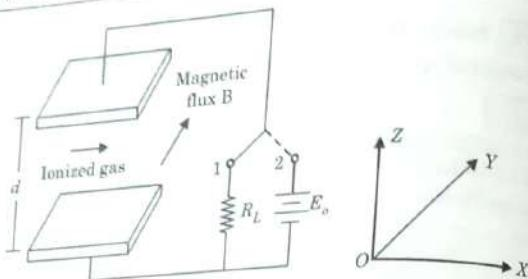

Fig. 3.10.2.
9. Consider the Fig. 3.10.2, the movement of gas is in X -direction, magnetic field B is in Y -direction and force on the particle is in Z -direction.